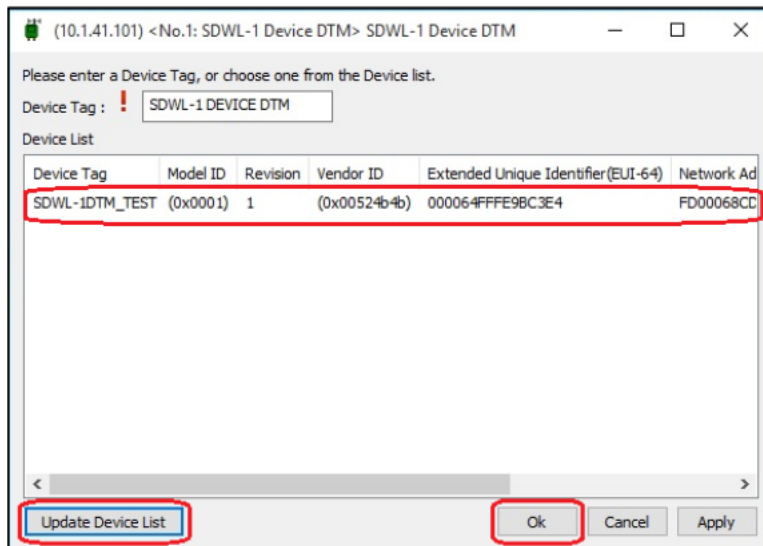

Figure 5-49 Editing device tag (with SDWL-1DTM_TEST selected)
- ⑪ Select the SDWL-1 to be connected from the device list, then click “OK”. (Figure 5-49)